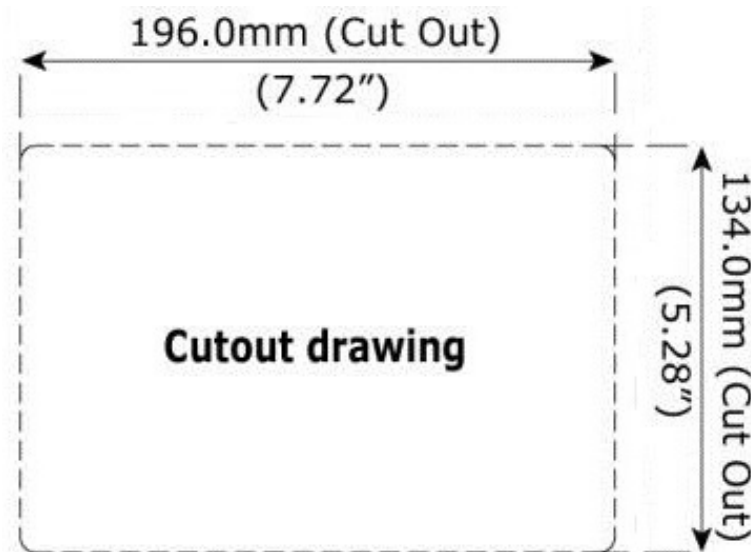

Figure 3. ModCon75 Touch Controller Panel Cut-out—Front View
- o See Figure 3 for cutout dimensions.